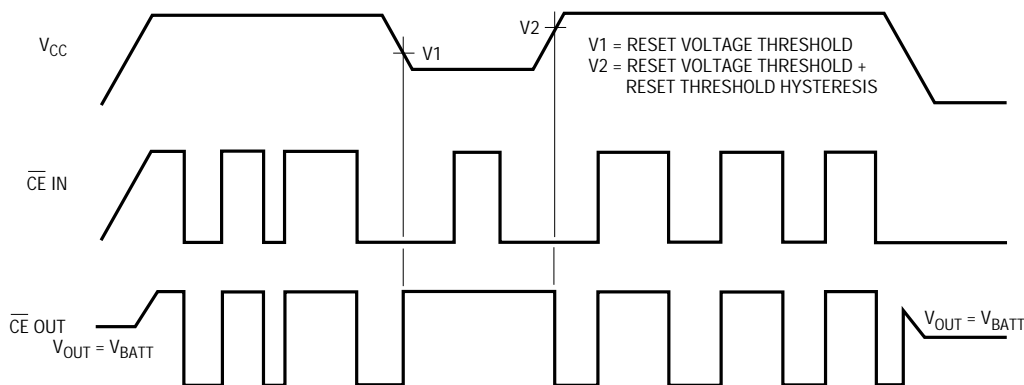

Figure 5. Timing Diagram for CE IN and CE OUT
**CE IN:** Logic Input to the Chip Enable Gating Circuit. CE IN can be derived from microprocessor's address line and/or decoder output. See Applications Information section and Figure 5 for additional information.
**CE OUT:** Logic Output on the Chip Enable Gating Circuit. When VCC is above the reset voltage threshold, CE OUT is a buffered replica of CE IN. When VCC is below the reset voltage threshold CE OUT is forced high (see Figure 5).
The LTC695-3.3 includes memory protection circuitry which ensures the integrity of the data in memory by preventing write operations when VCC is at invalid level. Two additional pins, CE IN and CE OUT, control the Chip Enable or Write inputs of CMOS RAM. When VCC is 3.3V, CE OUT follows CE IN with a typical propagation delay of 30ns. When VCC falls below the reset voltage threshold or VBATT, CE OUT is forced high, independent of CE IN. CE OUT is an alternative signal to drive the CE, CS, or Write input of battery backed up CMOS RAM. CE OUT can also be used to drive the Store or Write input of an EEPROM, EARM or NOVRAM to achieve similar protection. Figure 5 shows the timing diagram of CE IN and CE OUT.